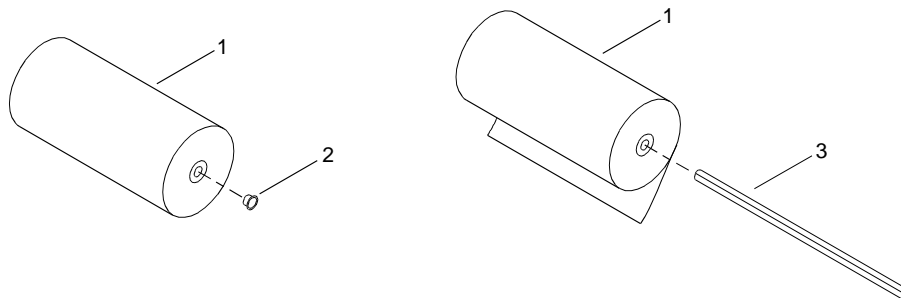

Figure 2. Paper Roll
1. Obtain a new paper roll (figure 2, item 1) and remove the metal inserts (figure 2, item 2) from the ends of the paper roll (figure 2, item 1).
- Slide the paper roller (figure 2, item 3) into the roll of paper (figure 2, item 1).